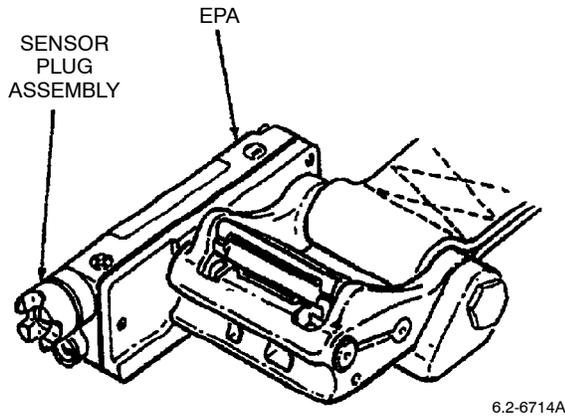

Figure 46. Remove Sensor Plug
- a. Remove sensor plug from EPA (Figure 46).